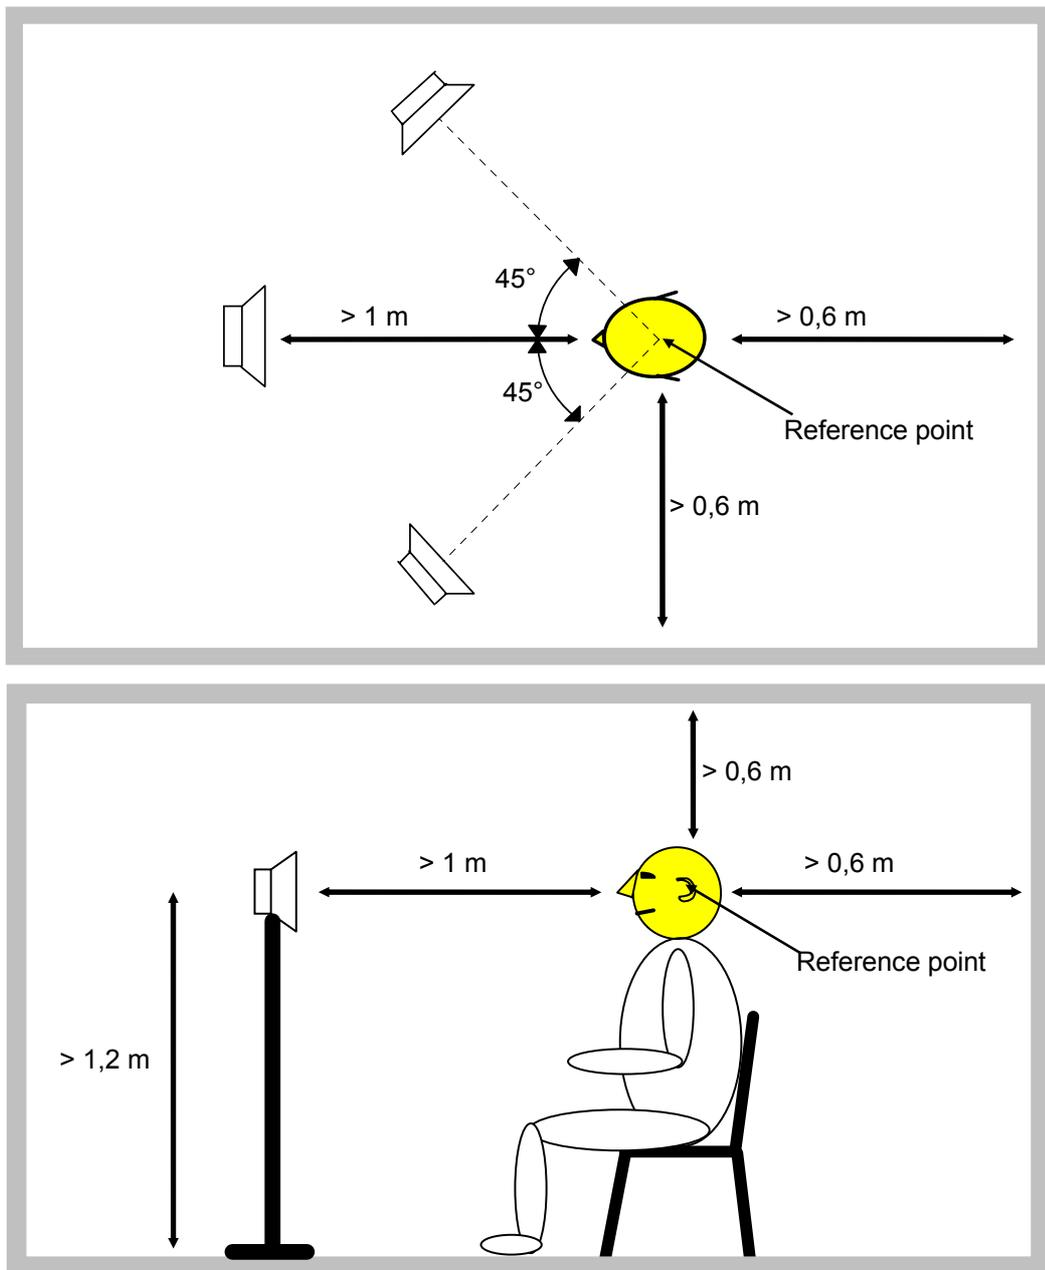

Fig. 1 Free field arrangement according to ISO 8253-3 (speech), seen from above and one side
2. Consider the positioning of the loudspeakers in order to make angles, height and distances in agreement with fig. 1. Install and connect the equipment.
ISO 8253-3 prescribes the position of loudspeaker (for speech audiometry) as shown in figure 1. The test person is placed on the axis of the loudspeaker producing the test signal. Noise are produced by two loudspeakers in a position of 45° to each side of the person under test. As an alternative to the position shown in figure 1 the centre loudspeaker could be placed in a corner and the side loudspeakers at the walls, which might be suitable in small test rooms.